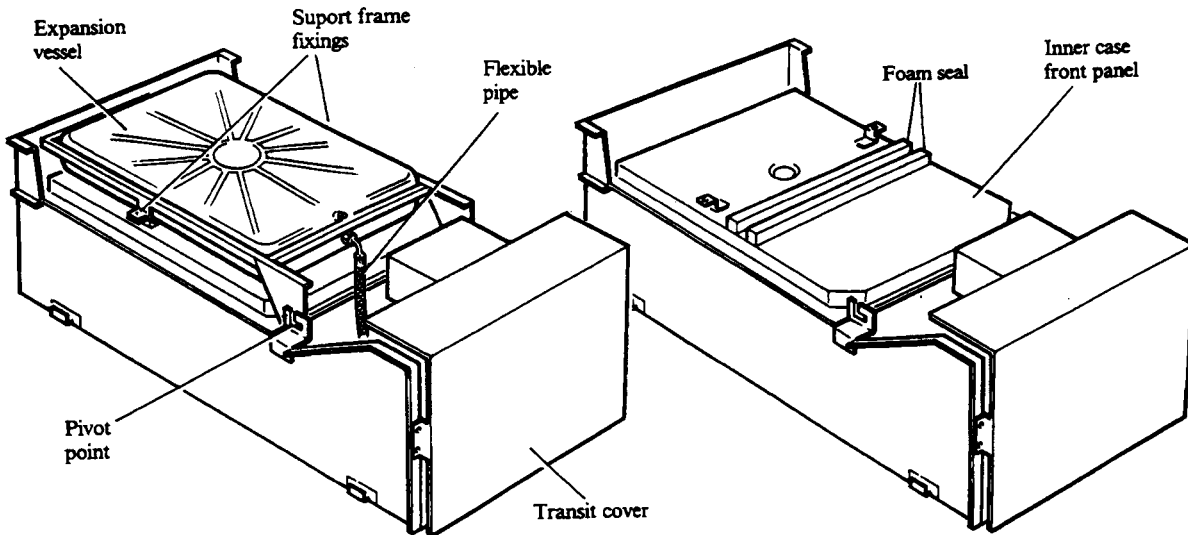

Fig. 13
1. Disconnect the flexible pipe connection to the bottom of the expansion vessel, take care not to lose the washer. Remove the two screws securing the expansion vessel support frame to the inner case front panel. Holding the vessel and frame swing them out to clear the boiler. Remove the frame and vessel from the boiler by lifting the frame out of its bottom pivoting point. See Fig. 13. Cut the foam seal in two and stick onto the inner case front panel just below the depression. See Fig. 13.
2. Remove the four screws (two at the top and two at the bottom) securing the inner case front panel and lift off the panel. See Fig. 13.
6. Remove the four screws securing the transit cover to the bottom of the boiler, see Fig. 13 and discard the cover and screws.